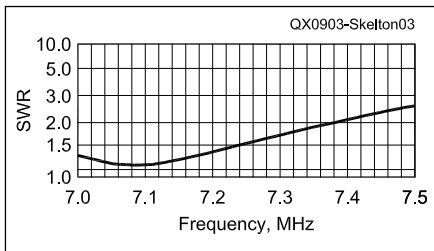

Figure 3 — This is an SWR plot for the NEF40, 40 ft above ground.
The results shown in Figure 3, from modeling a 40 m NEF half wave dipole, are typical of those obtained for other bands. This model was 68 ft long at 40 ft elevation, with the feed point 10.5 ft from one end. This antenna as a sloper, produced a similar SWR and its vertical pattern showed slightly more energy radiated at low angles
**Figure 3 — The top graph in each sequence was collected using my Jove receiver and the bottom graph is the data from my SID receiver. I tried to scale the graphs so the time axis would match. (The Jove time axis is local time and the SID time axis is in UTC.) The dark vertical lines mark approximate sunrise and sunset times.**
I did an experiment to compare the results of a few days of Jove data to the SID data. [Jove refers to the NASA Radio Jove solar and planetary radio telescope program for schools. It is a program for monitoring Jupiter and IO. See <http://radiojove.gsfc.nasa.gov/>. — Ed.] The Jove receiver is tuned to 20.05 MHz and I use an NVIS 2-element phased array (pointed up). The system is designed to detect radio signals from Jupiter, but in the daytime it can be used to monitor cosmic background noise and radio energy generated by the sun. There doesn't appear to be a correlation that jumps out at me, but I will do a few more checks to see if there is any connection. See Figure 3. I am trying to explain the sudden changes in the SID data, particularly those sharp drops and “floors” and sharp